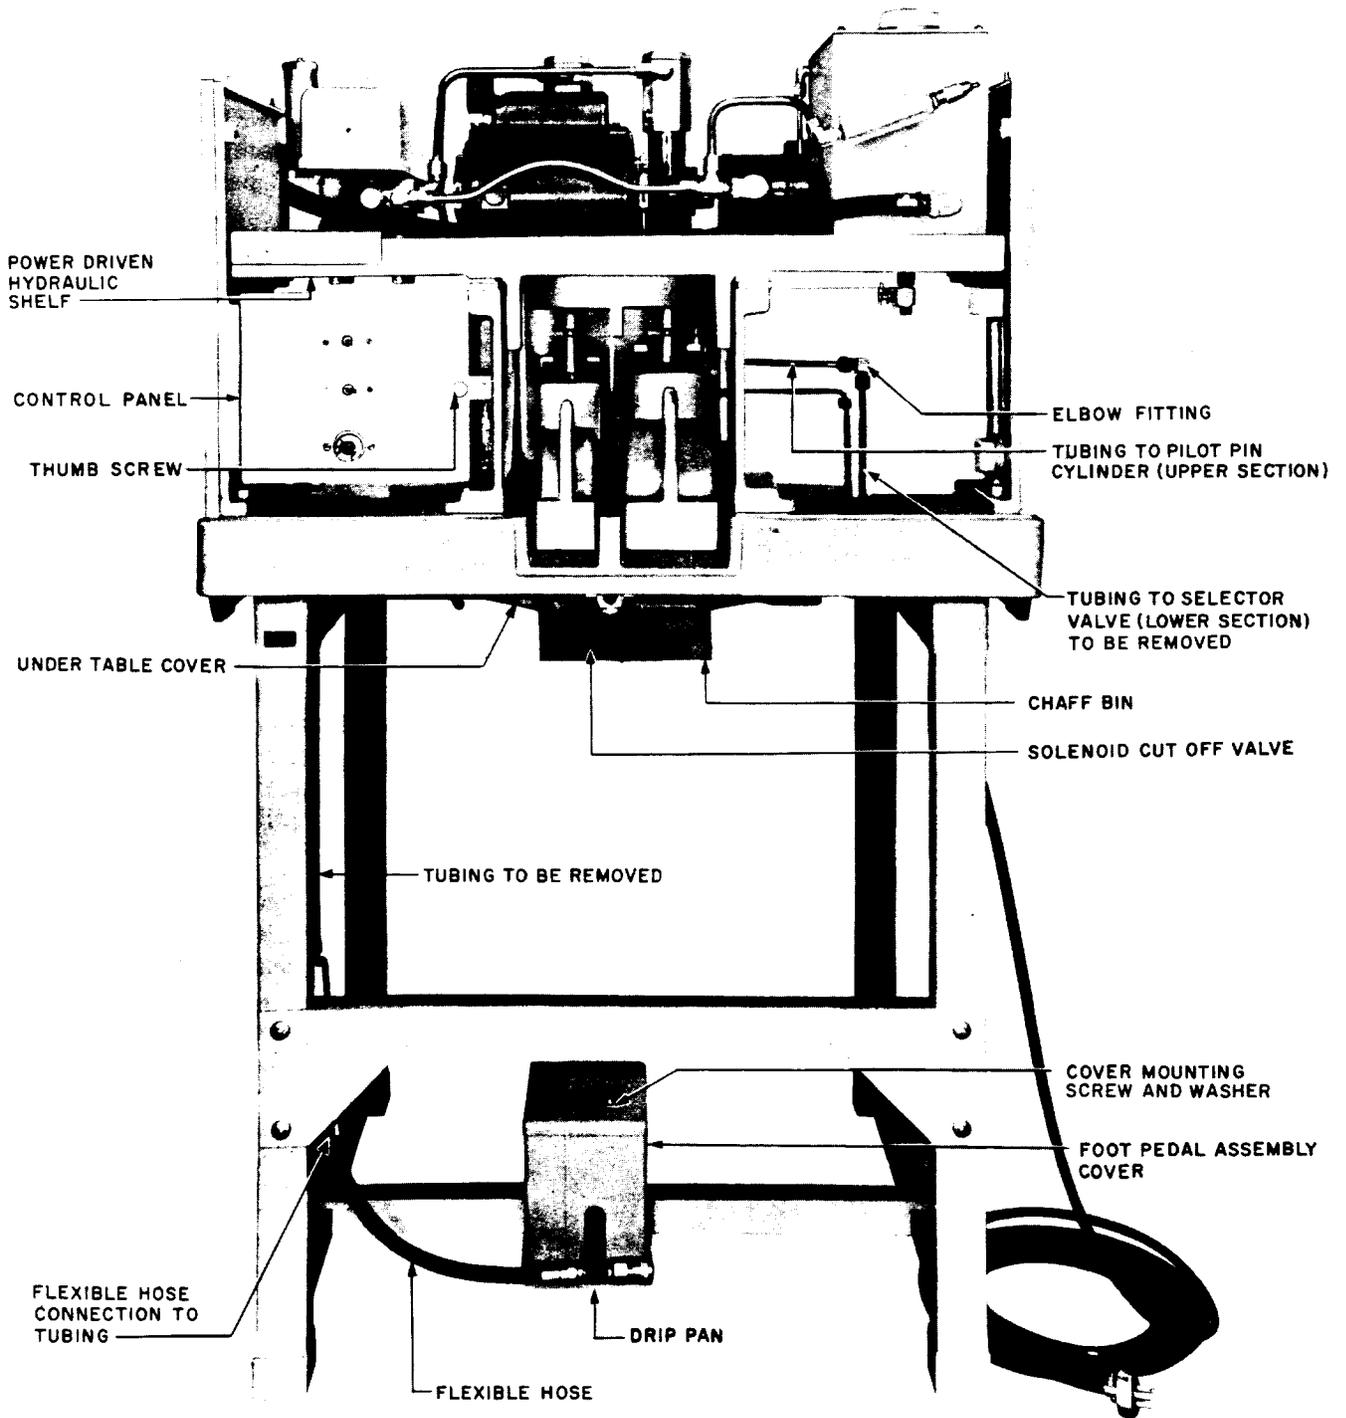

Fig. 2 - 659A and 659D Tools (rear view — covers removed)
4.01 Remove the drip pan from the foot-pedal assembly cover (Fig. 2) using the 3-inch C screwdriver. Then remove the cover using the R-2671 wrench.
4.02 Referring to Fig. 2 and 3, place a KS-14666 cloth below the flexible hose connection to the tubing clamped to the leg of the tool and place the drip pan below the hose connection to the hydraulic cylinder fitting to catch the oil that will drain from these parts when the hose connections are broken.
4.04 *Removing Tubing:* Referring to Fig. 2 and 4, remove the tubing which is entirely below the table and also the lower section of the tubing between the selector valve and the hole enlarging control unit pilot pin cylinder as follows.
(a) *Tubing Entirely Below Table:* Fig. 2 and 4 — To remove the tubing, hold the body of the fitting at one end of the tubing with the R-1542 wrench and unscrew the nut of the fitting with a second R-1542 wrench. Similarly break the connection at the other end of the tubing. Remove the tubing clamps using the R-2671 wrench and remove the tubing.
(b) *Tubing Between Selector Valve and Hole-Enlarging Control Unit Cylinder:* Fig. 2 and 4 — This tubing consists of two sections connected together by a compression-type elbow fitting at the rear of the tool above the table as shown in Fig. 2. Remove only the lower section as follows. Hold the body of the fitting at one end of the tubing with the R-1542 wrench and unscrew the nut of the fitting with a second R-1542 wrench. Similarly break the connection at the other end of the tubing. Remove the tubing clamps using the R-2671 wrench. Disengage the tubing from the fittings
4.05 Referring to Fig. 2, manually disengage the control panel thumbscrew and swing the panel outward. Using the 3-inch C screwdriver, remove the solenoid cut-off valve lead from terminal 9 on the control panel terminal strip. Tape the end of the lead. Close the panel and securely tighten the thumbscrew.